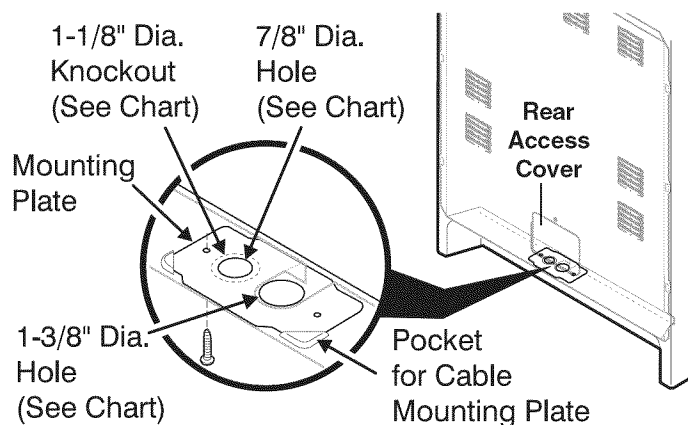

Fig. 8
See Range Connection Opening Size Chart (Figs. 8 & 9) for cord kit ampere rating information. Terminals on end of wires must be either closed loop or open-end spade lugs with upturned ends.
The rear access cover must be removed (Fig 8). To remove, loosen center screw (one screw) and remove cover. The terminal block will then be accessible.
- Follow the manufacturer's installation instructions supplied with the strain relief and install (also refer to Figs. 8, 9, & 10).
- Make sure all connections are tightened securely and replace the rear access cover (See Fig. 8).